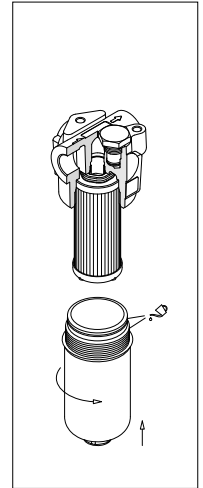

fig. 8
- (Fig. 8) Lubricate the thread and the O-Ring of the bowl, then screw the bowl in referring to the tightening torque table in paragraph 3